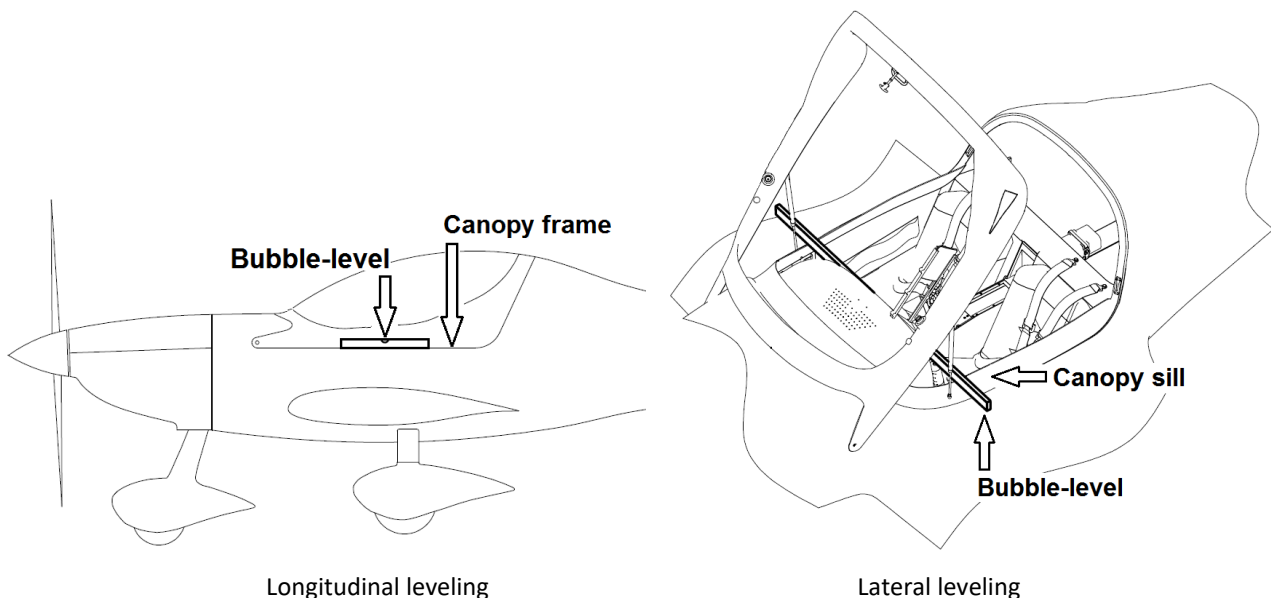

Fig. 6-1 Aircraft leveling
- a) Level laterally with a bubble-level placed across the cabin sills above the main spar with the canopy opened (Fig. 6-1). If the bubble-level is not long enough, a suitable extension (e.g. even wooden plank) may be used with the bubble-level placed on top. Be careful not to damage the cabin sills when leveling.
- c) Level longitudinally with a bubble-level placed on the canopy frame (Fig. 6-1). Adjust the level by deflating the nose wheel's tire or install suitable pads under the nose/main wheel scales.